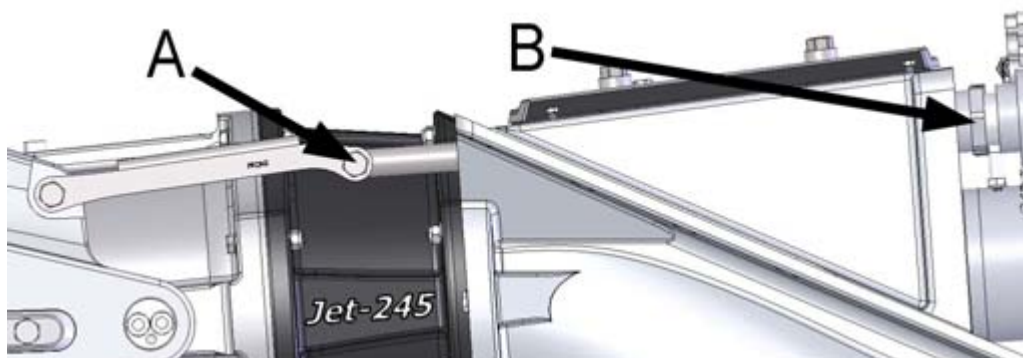

Figure 62. Removing the cylinder
3. Open the knee bolt of the connecting rod between the hydraulic cylinder and the reversing deflector (figure 62, point A).
4. Open the fastening nut of the hydraulic cylinder (figure 62, point B).